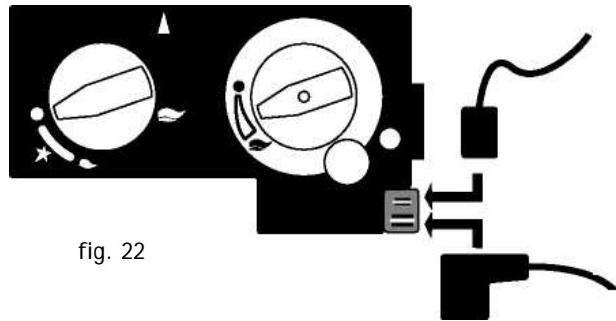

fig. 22
3. Connect the wires to the gas valve (see fig. 22).
2. Turn the Inlet pressure test point C (see fig. 22) some and apply the (meetslang);